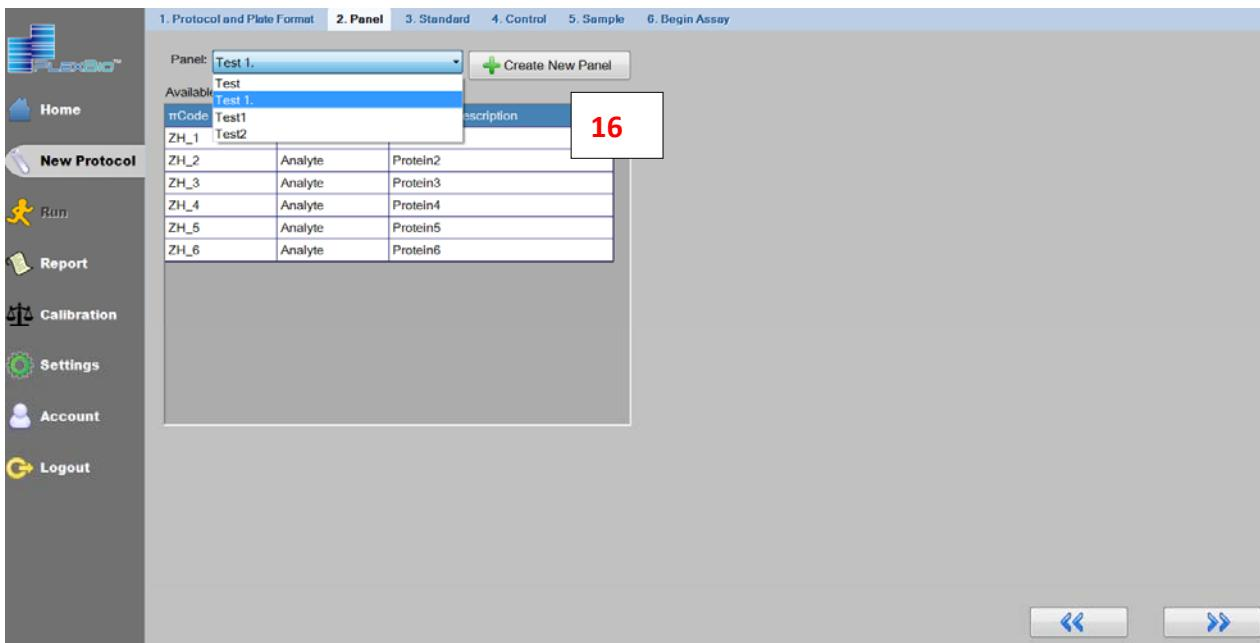

Figure 43. New Protocol/ Panel/Selection of previous panels
- Step 16. Users can select previous panels by clicking on the blank part of “Panel”. Please see Figure 43. In this case, the panel “Test1” was previously saved or used. Therefore, “Test 1” can be selected for use.